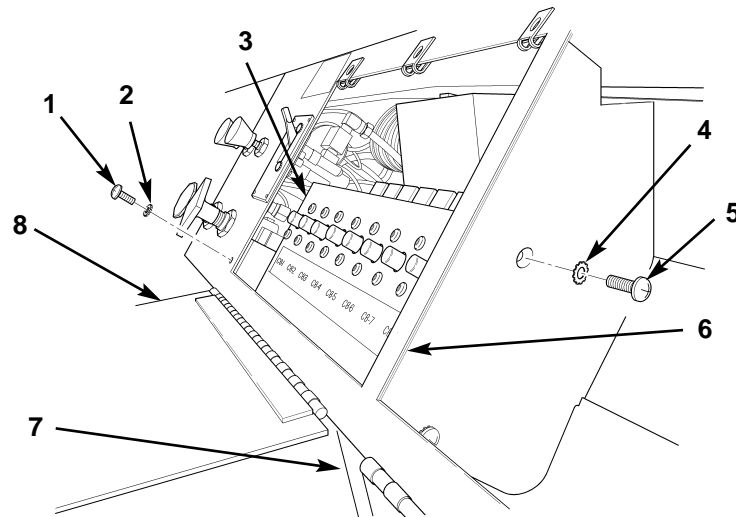

Figure 78. Removing Circuit Breaker Panel.
18. Turn three turnlock fasteners 90 degrees, and hinge open circuit breaker cover (figure 78, item 8).
19. Open glove compartment door (figure 78, item 7), and remove two screws (figure 78, item 5) and star washers (figure 78, item 4) from dash panel (figure 78, item 6) and circuit breaker panel (figure 78, item 3).
20. Remove screw (figure 78, item 1) and star washer (figure 78, item 2) from dash panel (figure 78, item 6) and circuit breaker panel (figure 78, item 3), and lift circuit breaker panel (figure 78, item 3) out to access wiring.